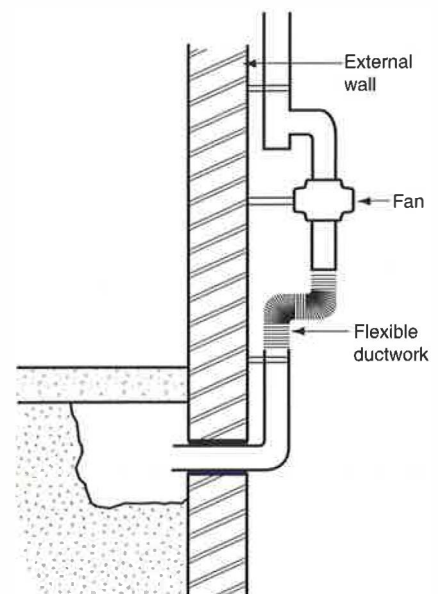

Figure 6 This radon sump extract fan is mounted on a heavy, rigid support point
- mounting the fan and ductwork on a heavy, rigid support point which is not easily shaken (see Figure 6)